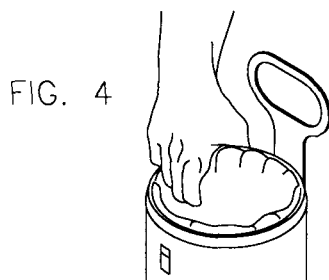

FIG. 4
2. GRAB THE PAPER BAG WITH THE BAG RING (FIG.4).